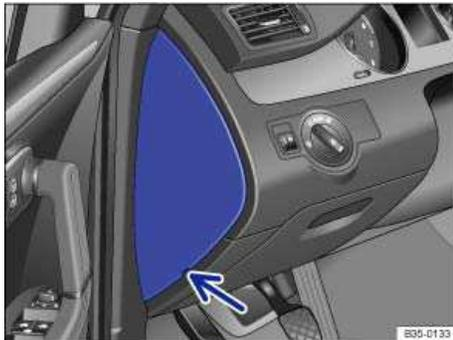

Fig. 196 On the driver side of the instrument panel: Fuse box cover.
- Insert a flat object, such as a screwdriver from the vehicle tool kit, into the opening ⇒ fig. 196 (arrow) and carefully lift off the cover.